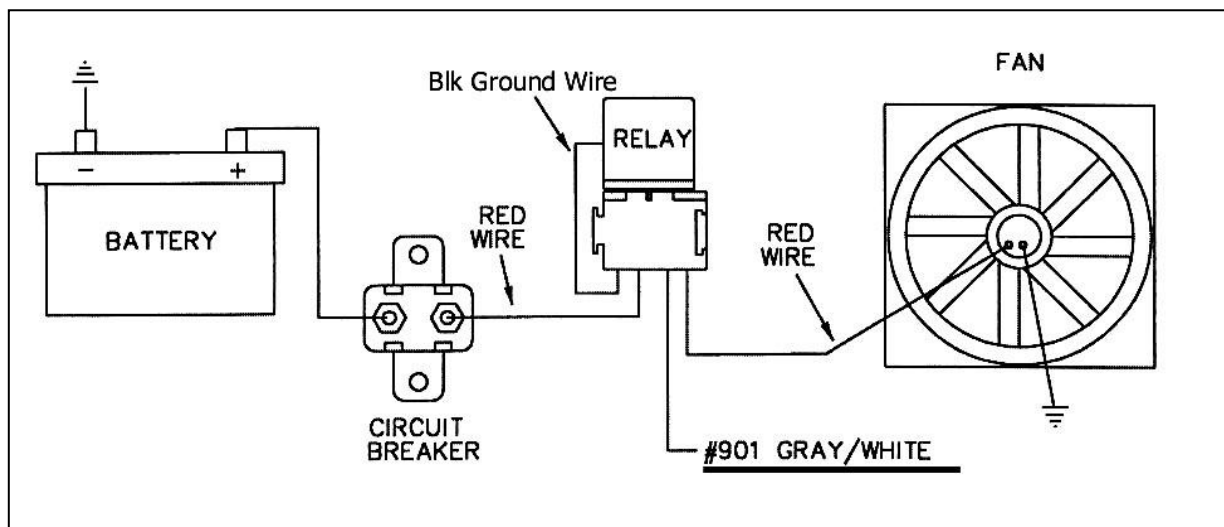

Figure 7.17 Typical Fan Relay Installation (**Painless Part #30101 Fan Relay Kit**)
- 7.12.1** If you are running electric cooling fans then you will run Gry/Wt wire #901 to the fan relay not directly to the fan. This wire is an activation wire for the relay only. Painless Performance has a relay kit Part #30101 that can be used for your fan relay. See **Figure 7.17**.